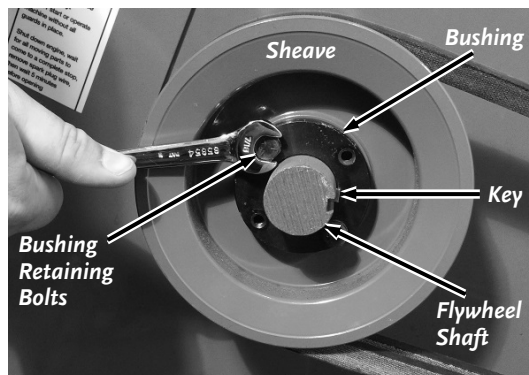

Figure 46b: 21.0 Model
- Remove the Bushing Retaining Bolts with a 7/16" Wrench (**Figure 46b**).